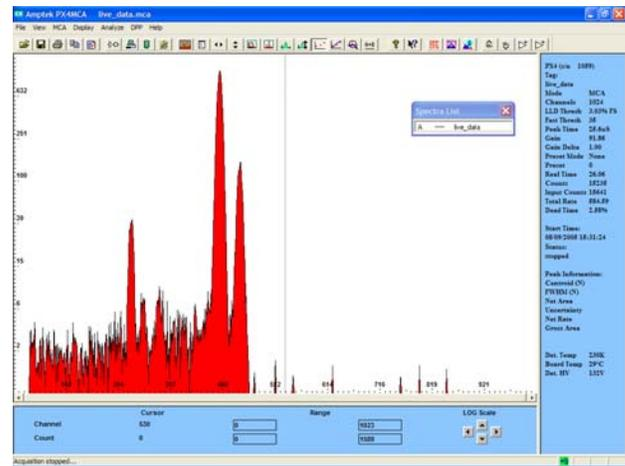

Figure 3: Acquisition spectrum for an ^{55}Fe source.
5. To select a configuration select "DPP Setup" under the "DPP" dropdown list in the software or by clicking the "acquisition setup" button on the toolbar. The dialog box shown in Figure 3 will appear. If using an Amptek detector, the configurations can be selected through the dropdown menu labeled "Read Amptek Detector Configuration."